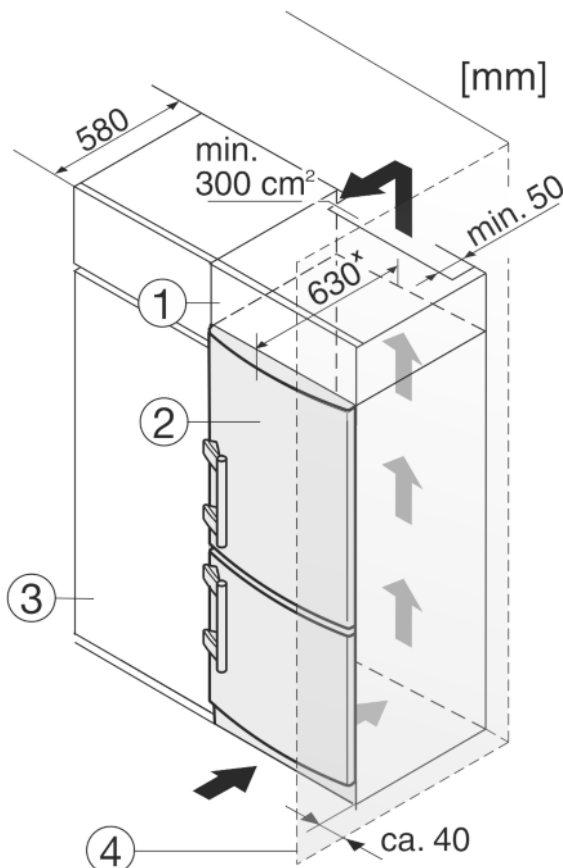

Fig. 12
The appliance can be built into kitchen units. A top cupboard Fig. 12 (2) can be added above the appliance in order to bring the appliance Fig. 12 (1) up to the height of the fitted kitchen units.
When installing with kitchen units (max. depth 580 mm), the appliance can be positioned directly next to the kitchen cabinet Fig. 12 (3). The appliance will project by 34 mm * at the sides and 50 mm * in the centre of the appliance in relation to the kitchen cabinet front.
If the appliance is installed with the hinges next to a wall Fig. 12 (4), the distance between appliance and wall has to be at least 40 mm. This corresponds to the projection of the handle when the door is open.